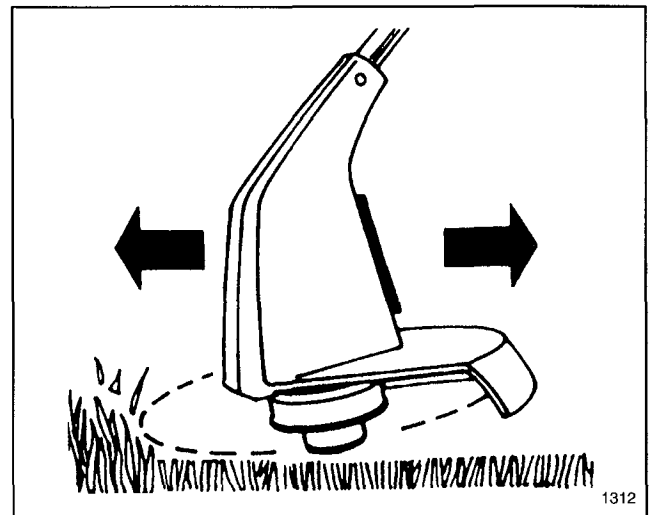

Figure 14
1. Hold the power pack case in a position which slightly tips cutting head down at an angle to the grass to be trimmed as shown in Figure 14.
height. This can be either a forward-backward or side-to-side motion (Figs. 14 & 15). Maintain top speed for best cutting.